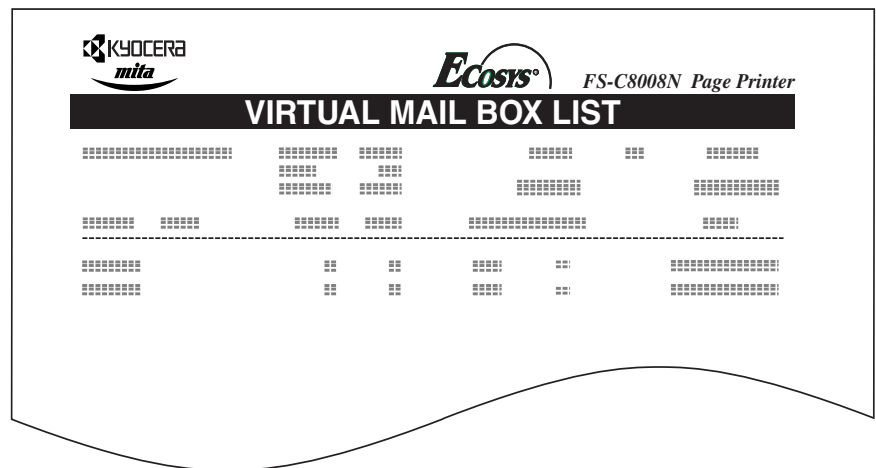

Figure 3-6
- 6 Press the **ENTER** key again. The printer prints a list of jobs currently posted in the virtual mailboxes as shown in Figure 3-6 below.